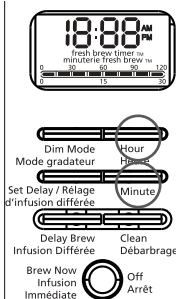

FIGURE 1
2. Press and hold the **HOUR** and **MINUTE** buttons until you reach the current time. The **AM** or **PM** indicator will light at the bottom of the display (Figure 1).